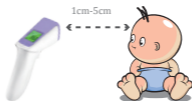

Figure 2: Measuring position and distance
- The thermometer is aligned with the middle of the forehead to measure body temperature between the eyebrows above and keep the vertical distance, press the On/scan button, temperature will display immediately, see figure 2.
Incorrect test position.	See figure 2 Measuring position and distance.